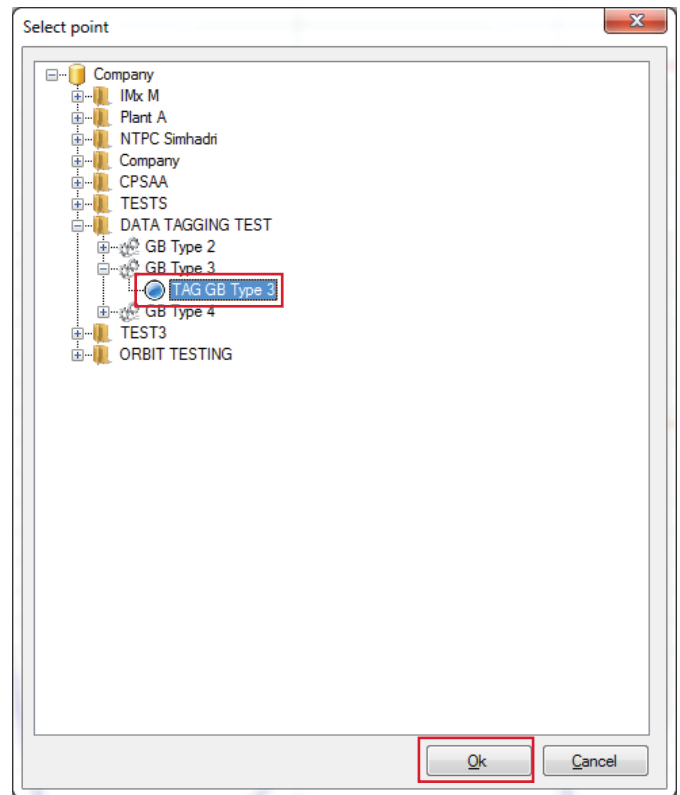

Fig. 15. Select the data tagging point.
- Select the data tagging point and click **OK** (→ fig. 15).